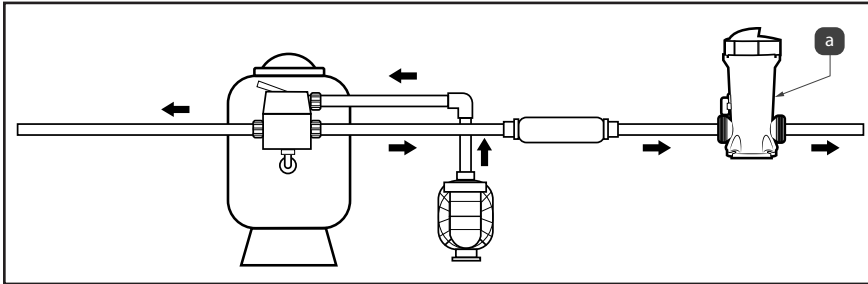

Figure 3. In Line Installation Configuration
1. Install the dosing unit down-stream of the heating system, if no heating system is installed down-stream of the filter, see Figure 3(a).